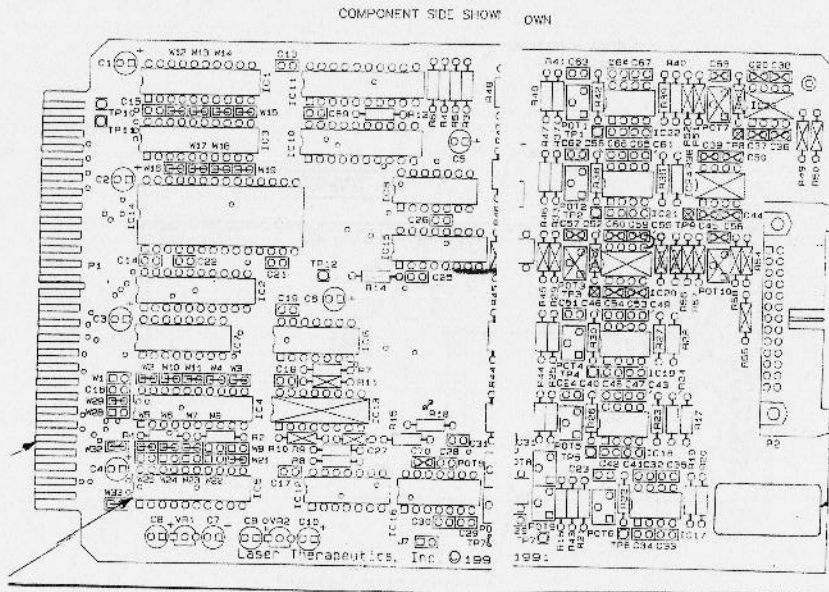

Figure 5.4: Analog Input PCB
**Adjusting the LVPS.** The +5 VDC is adjusted at the variable resistor located at R21 at the back of the LVPS (shown in Figure 5.4). Adjusting the +5 VDC will also affect the +15 and -15 voltages. If the +5 VDC is adjusted, therefore, be sure that all three voltages are in spec.
which serves as the communicating link between the three (See Figure 5.4). To remove, simply pull out of the card cage.
Voltage measurements and adjustments for the detector monitor circuits are made on this PCB. See Figure 5.4 for adjustment locations.
TP1-TP9 are the measurement test points used when zeroing and adjusting voltages for the detector control circuits. The voltage adjustments are made at the blue potentiometers labeled POT1 - POT9 (Pots 3, 7 and 10 are not used). Pots 8 and 9 are reference level adjustments. They determine the threshold at which the system detects the Aim and Treatment beams. See Figure 5.4 for a schematic of the Analog Input PCB.
**Location.** The Keyboard Display PCB is located in the card cage above the CPU PCB and is plugged into the Mother PCB which acts as the communicating link (Refer to Figure 5.4). To remove, simply unplug from the Mother Board and pull out of the card cage.
**Location.** The CPU PCB is located in the card cage between the Keyboard Display PCB and the Analog Input PCB and is plugged into the Mother Board which acts as a communicating link (Refer to Figure 5.4).
**Location.** The Mother PCB is located at the base of the card cage. The Keyboard Display, CPU and Analog Input PCBs are all plugged into the Mother PCB (Refer to Figure 5.4).